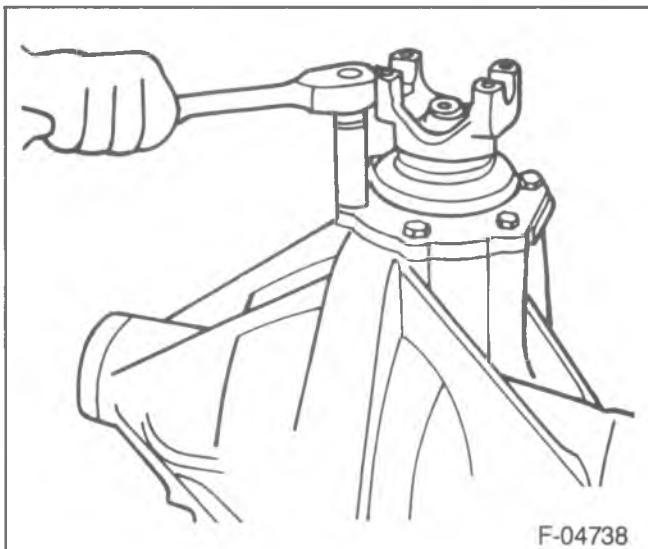
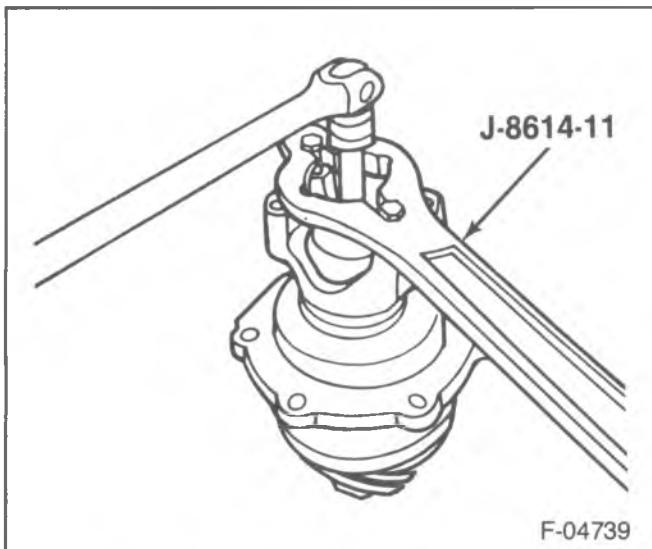

Figure 67—Removing the Pinion Cage
Figure 68—Removing the Pinion Nut
- 16. Pinion assembly cage bolts (7) and washers (8) (figure 67).
- 17. Pinion assembly cage (10).
- 18. Pinion cage shims (11).
- 19. Pinion flange nut (1) and washer (2) using J-8614-01 to hold the flange (figure 68).